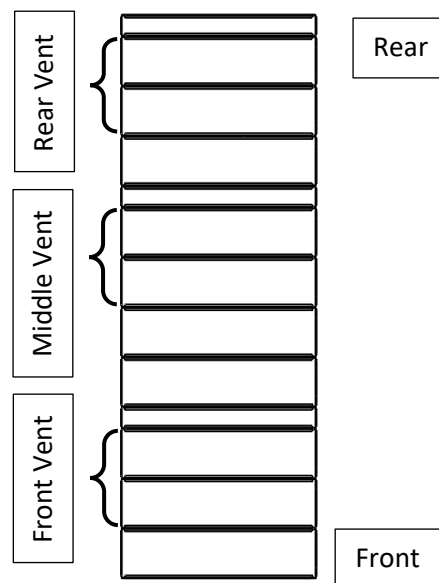
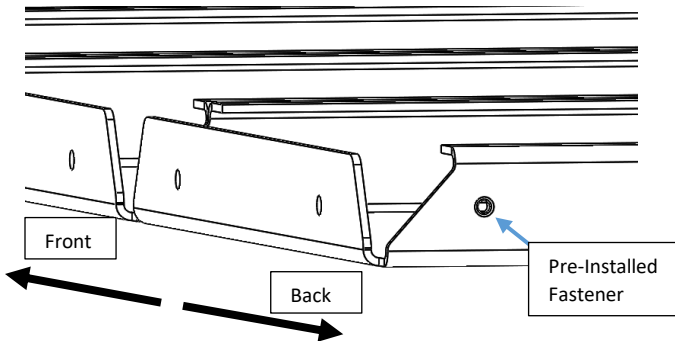

Figure 1: Flooring Panel Layout
Figure 3: Close Up of Panel Orientation - Front-to-Back
- a. See Figures 1 & 2 for panel locations of front or rear vent location (1 vent included).
- b. To install two or three vents, additional vent replacement kit(s) (PN 210514) are required. Replace the two large panels (PN 301003) in the specified location for the additional vent as shown in Figures 1 & 2.
2. Arrange the flooring panels into the desired configuration with panels oriented to have access to the fastening features (flat surface down/away). Use Figures 1 & 2 as a guide. The edge of the panel with the threads should face the rear of the rack as shown in Figure 3.